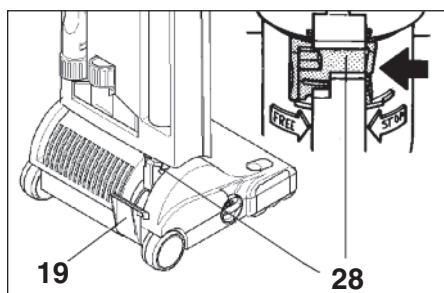

Figure 3
Operating Positions - *Figure 3*
To vacuum walls, under beds, or higher-reach areas, etc., the SEBO *essential* G can be fitted with an additional straight tube (45) and the wall and floor brush (41). The machine will then perform as a canister vacuum (**as shown in figure 3**).